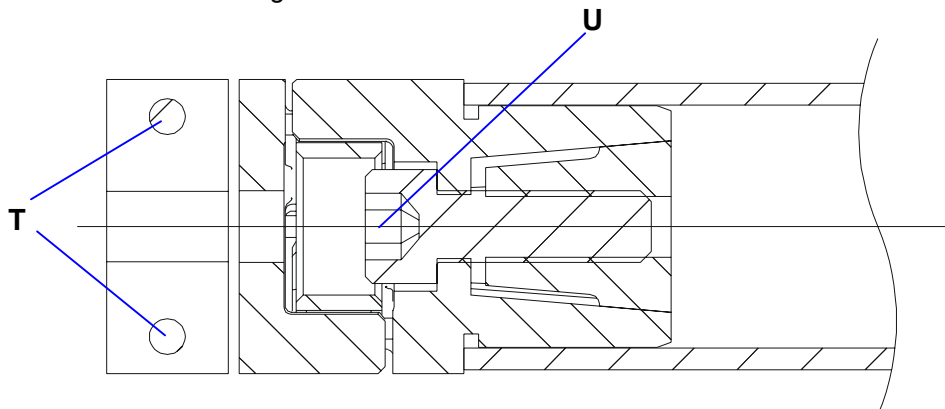

Figure 35: Shaft Coupling Parallel Drive System
- Undo the fastening screws (*Figure 35, T*) of the shaft couplings integrated in the connecting shaft.
- Undo the clamping screw (*Figure 35, U*). The clamping cone is undone.
- Securely tighten the clamping screw (12 Nm) (*Figure 35, U*).
- Securely tighten the fastening screws (8.5 Nm) (*Figure 35, T*).
- Undo the fastening screws of the shaft couplings integrated in the connecting shaft (Figure 35, T).
- Securely tighten the fastening screws (see Figure 35, page 42, T).